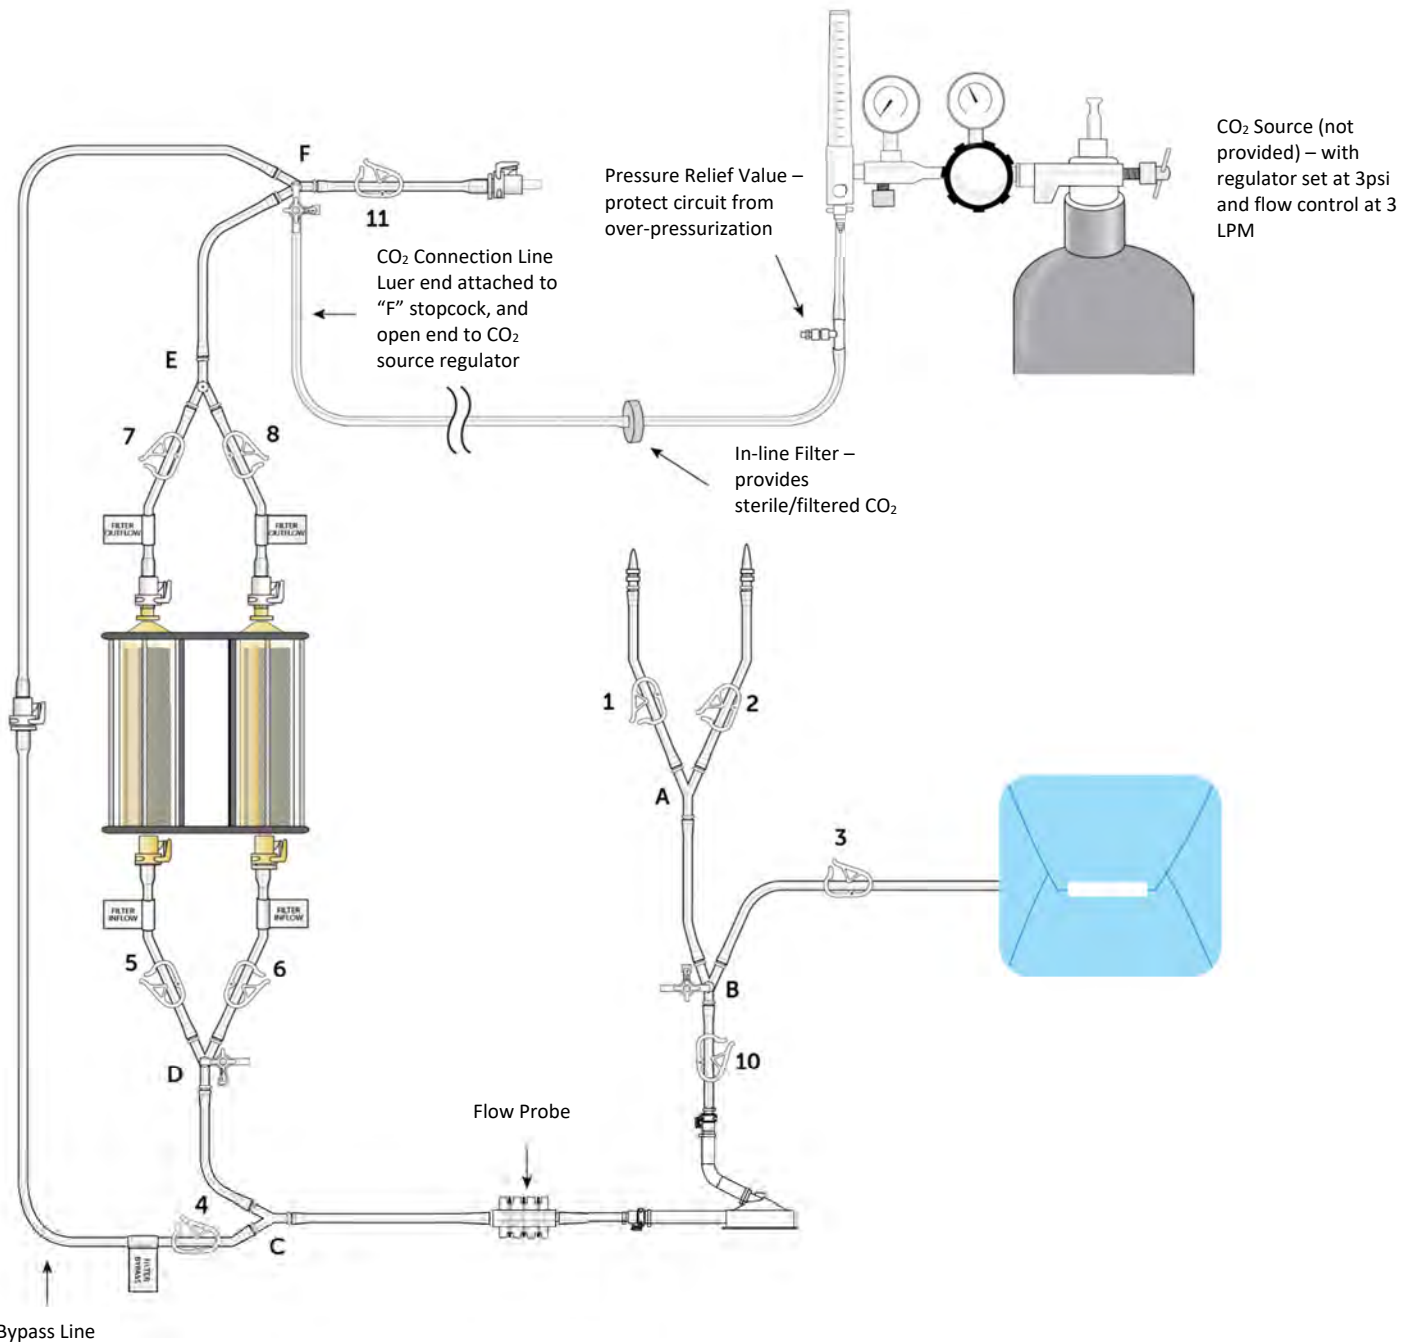

Figure 12
- Close outlet clamp (11), attach the CO₂ connection line to the stopcock "F", and open the stopcock, see Figure 12.